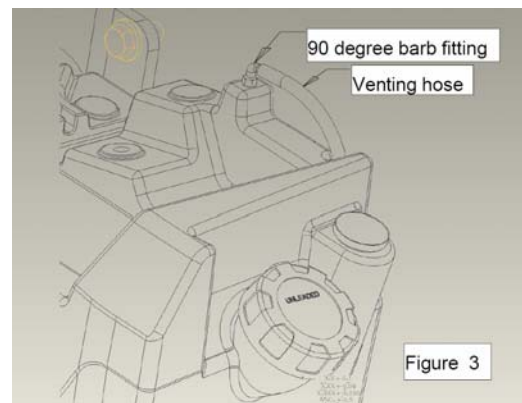

Figure 3
Step 7. Install the fuel tank vent extension fitting and hose as shown in Figure 3. (For Workman MDE skip this step unless a ESPAR heater is being used)